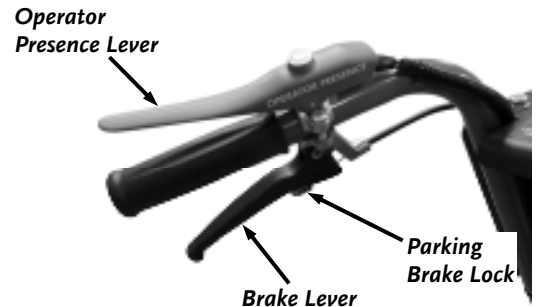

Figure 27
5. Set the Parking Brake by squeezing the Brake Lever on the right Handlebar and lift up on the Parking Brake Lock, locking the Lever in place (**Figure 27**).
Note: The DR POWERWAGON is equipped with an Operator Presence Control for added safety. The Operator Presence Lever must be depressed whenever the Shift Lever is in gear, or the Engine will stop. You may run the Engine without depressing the Operator Presence Lever (**Figure 27**) only if the Shift Lever is in the "N" (Neutral) position (**Figure 28**).